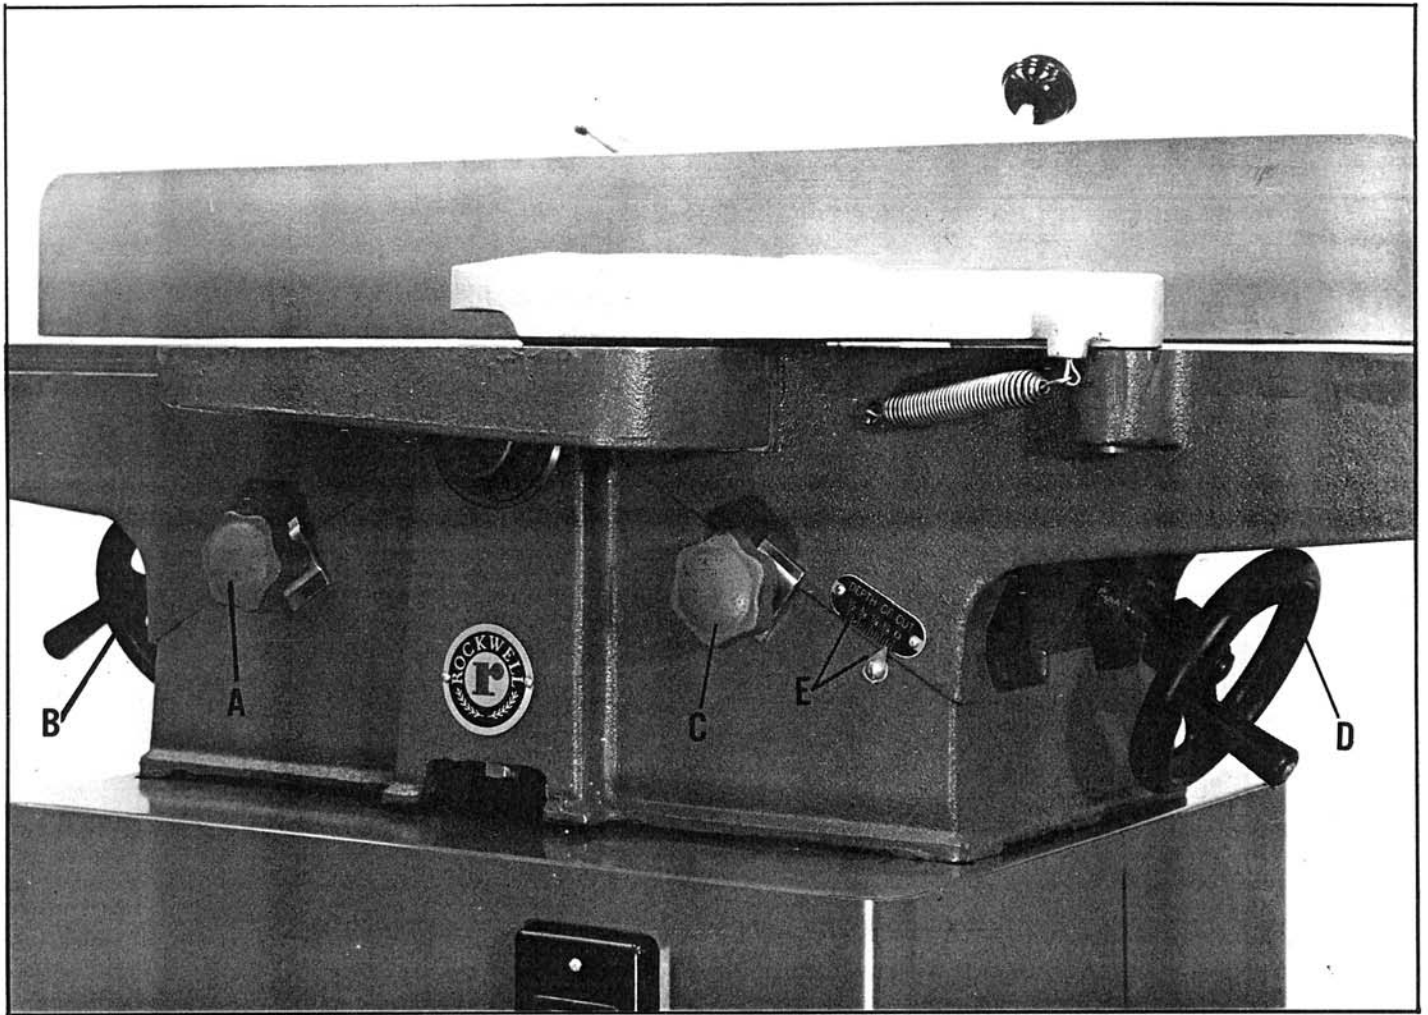

Fig. 6
To raise or lower the rear table, loosen lock knob (A) Fig. 6, and turn handwheel (B). Tighten lock knob (A) when table is set at desired position.
The amount of material removal by a single cut can be any thickness from a very thin shaving to 1/2". To adjust for depth of cut, raise or lower the front table by loosening lock knob (C) Fig. 6, and turning handwheel (D). The pointer and scale (E) Fig. 6, indicates the amount the table has been raised or lowered. When the front table is set at the desired position, tighten lock knob (C).
IMPORTANT: ALWAYS LOOSEN LOCK KNOBS (A) AND (C) FIG. 6, BEFORE MOVING TABLES.